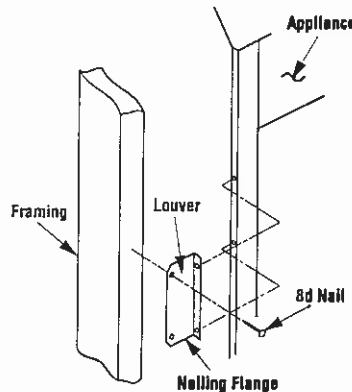

**Figure 8**
**Step 2.** Route gas line (*Figure 8*) using techniques and materials prescribed by local and/or national codes. It is recommended that a gas line of ½" or greater diameter be used to allow full gas volume to the fireplace. Undue pressure loss will occur if the pipe is too small. The appliance, as set up at the factory, is best suited for use with a gas line routed from the right side. The gas line may however be alternately routed from the left side.